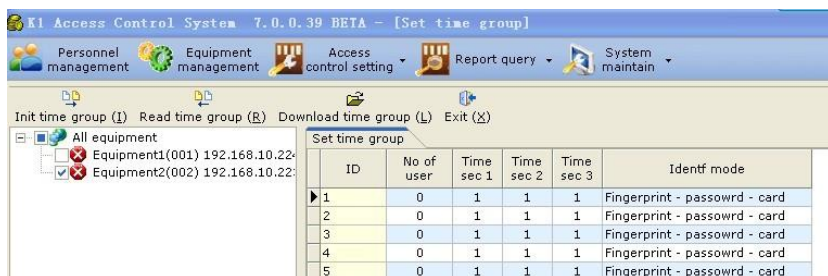

图 2.46
1. Setting access control > Setting time group: select one equipment, obtain the time group (The time group of the equipment will be displayed on the time group list. You can obtain the time group for only one piece of equipment each time.) (Figure 2.46).